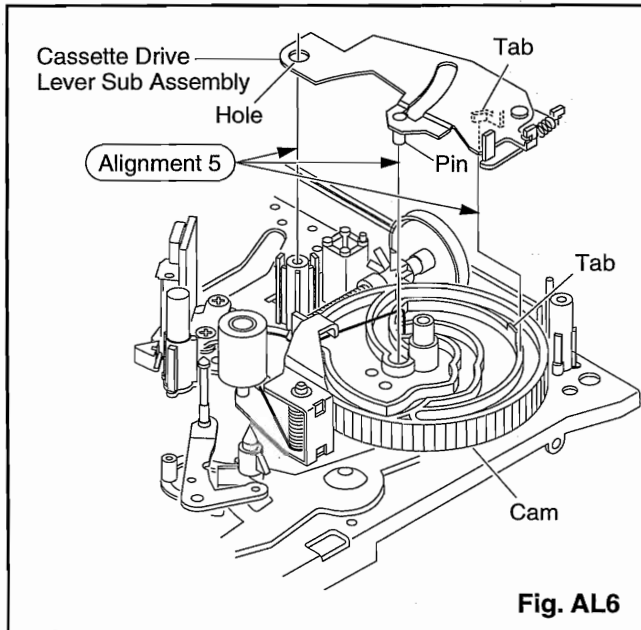

**Fig. AL5**
1. Ensure that the Spring of the Pinch Roller Arm Assembly is positioned in the end of the groove of the upper Cam as shown in Fig. AL5.